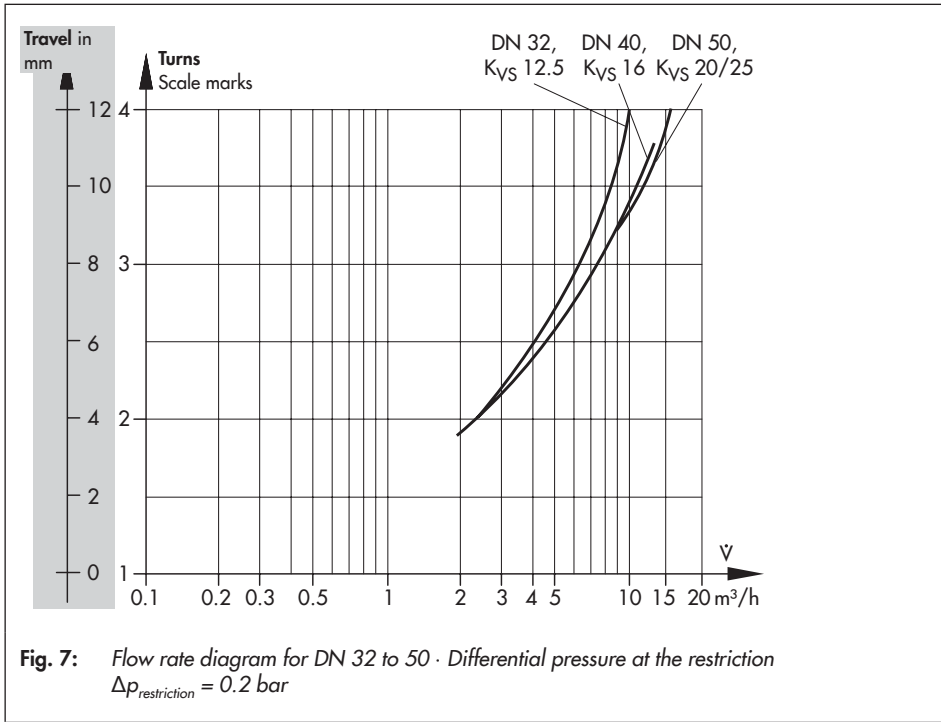

Fig. 7: Flow rate diagram for DN 32 to 50 · Differential pressure at the restriction $\Delta p_{restriction} = 0.2 \text{ bar}$
3. Refer to Fig. 6 or Fig. 7 to find out how many turns are required to set the flow rate.